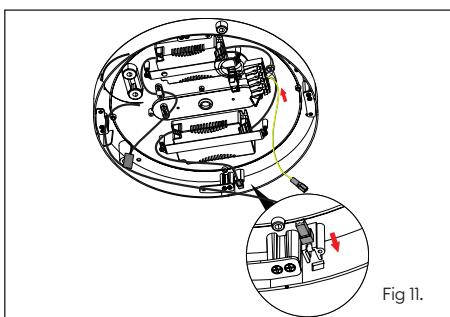

Fig 11.
- Insert the connector socket into the allocated hole in the base section and fix into place by installing the supplied plate and screw (fig 11 and 12).